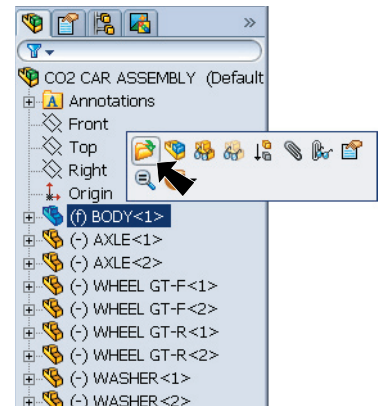

Fig. 40
Step 2. Click **BODY** in the Feature Manager and click Open Part from the Content toolbar, **Fig. 40**.